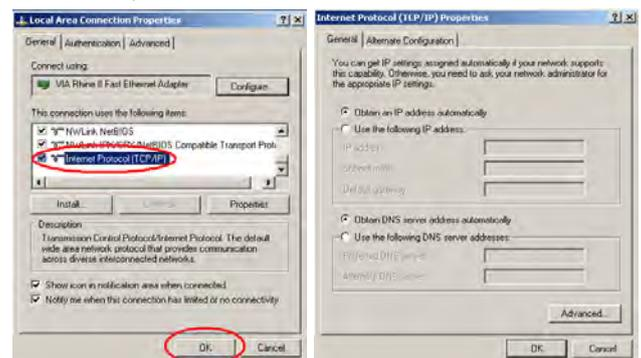

Figure 3.b - Network settings
6. Click “Properties”: the window shown in Figure 3.b (left) is displayed
7. Double click “Internet Protocol (TCP/IP)”: the window shown in Figure 3.b (right) is displayed.